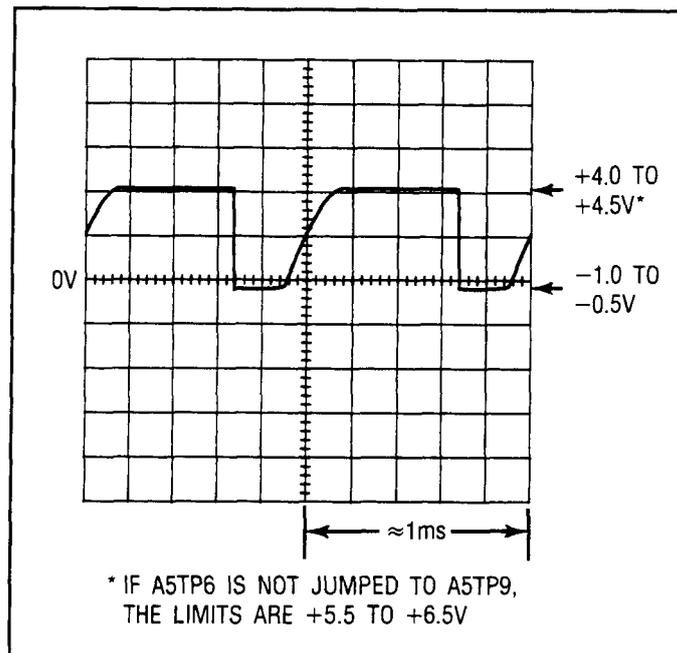

Figure 8C-3. Oscilloscope Waveform at A5TP3, $\sqrt{2}$ Step 3
3. Connect the oscilloscope to A5TP3 (S/H). The waveform should be as shown in Figure 8C-3. If faulty, see Service Sheet 9 and check Sample and Hold 1.